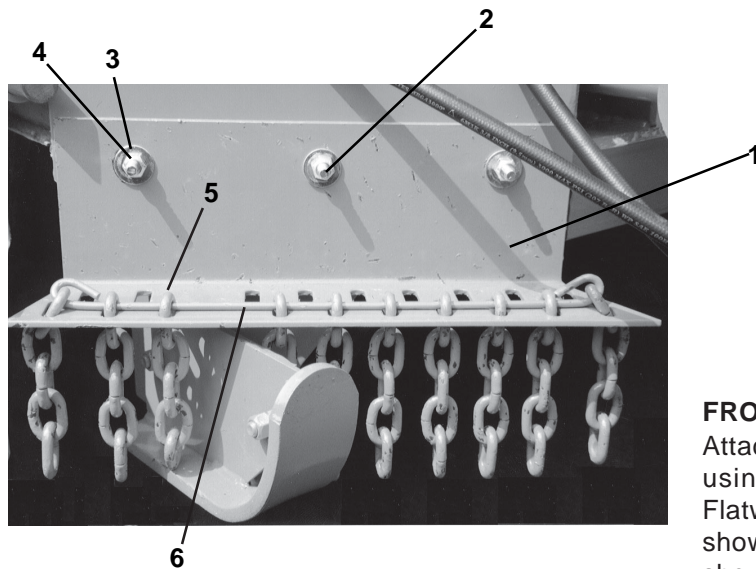

FIGURE 21
Attach Single Chainguard to front center deck using 7/16" x 1-1/2" Bolts (2), Nut(4), and Flatwashers (3) on face side of Chian Guard as shown in **Figure 21**. Individual chain links(5) should be inserted into chainguard and held in place using Chain Rod (6).